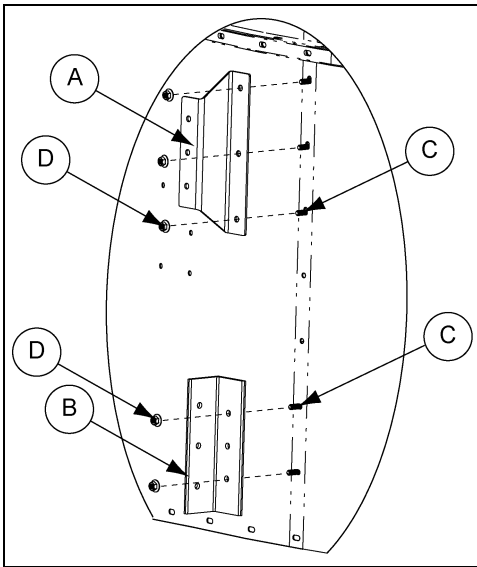

Figure 4B
1. Install bracket (A) and clip (B) to the burner panel seam right below the bottom burner ring using bolt (C) and nut (D). (See Figure 4B.)